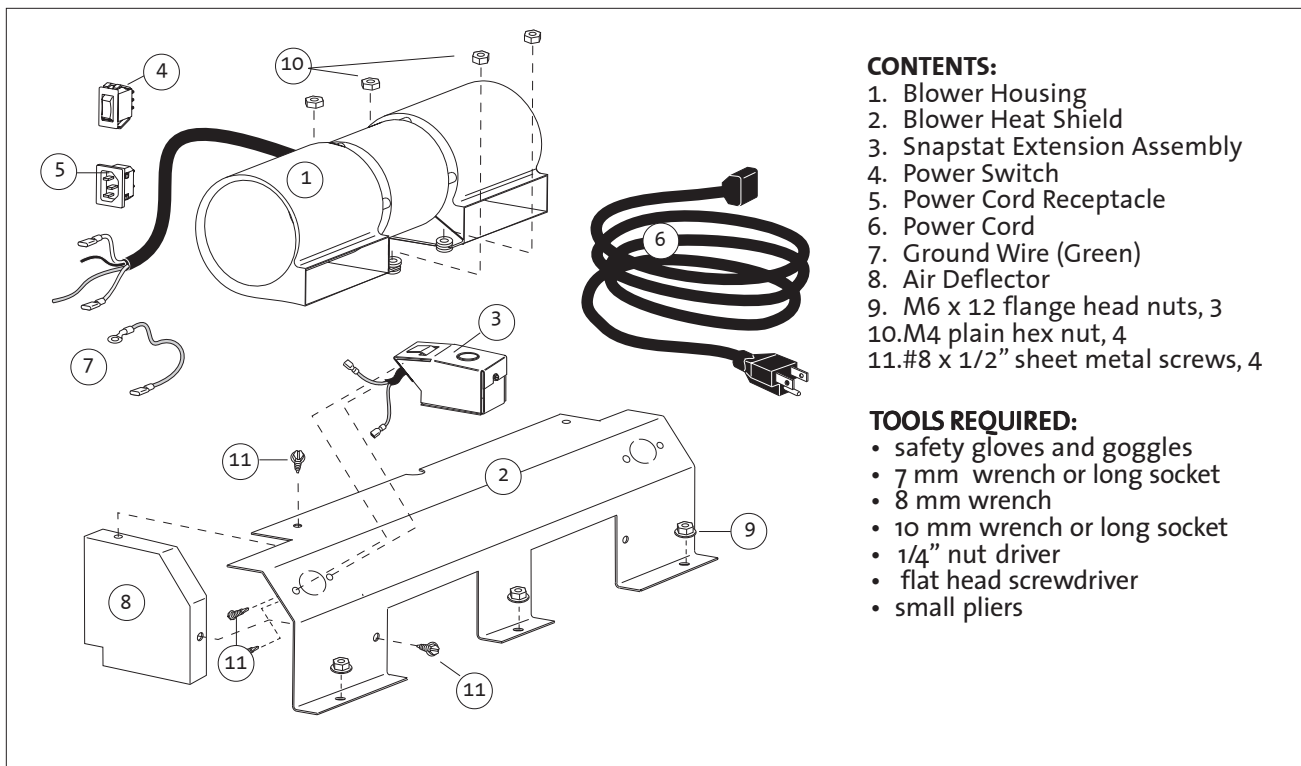

Figure 13. Kit Contents - 155304 Blower
- 1. Unpack and check the contents** of the blower kit. Contact your dealer if any damage is evident or parts are missing. See fig. 13.
- 6. Attach the Air Deflector:** Using two #8 sheet metal screws, attach the Air Deflector to the Heat Shield on the same side as the snapstat is installed. See fig. 13, parts 8 and 11.